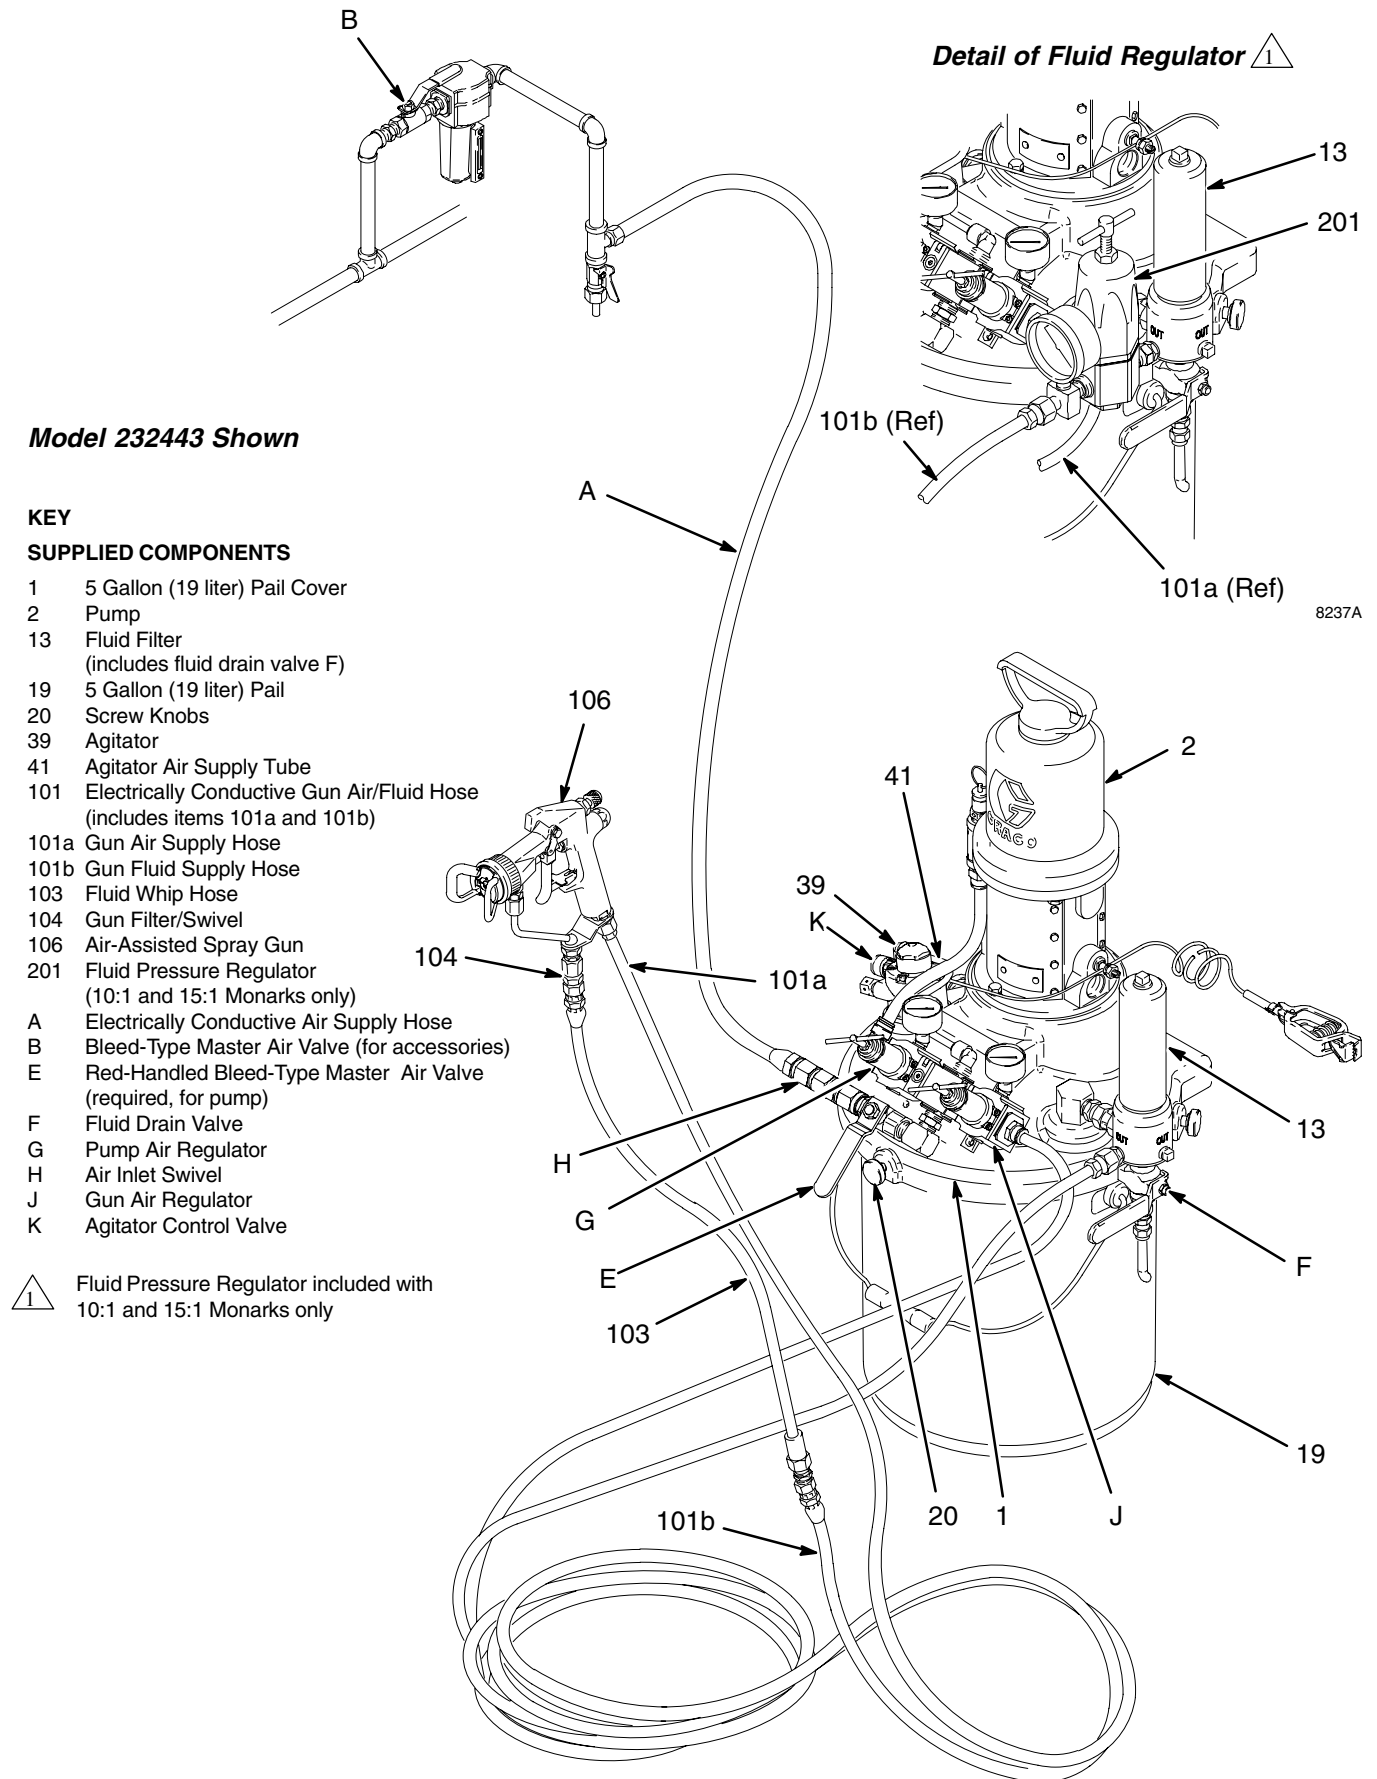

Fig. 3
2. Close the red-handled bleed-type master air valve (E, required in your system). See Fig. 3.
1. See Fig. 3. Remove the tip guard and spray tip from the gun (106). Refer to the gun manual.
2. Close the gun air regulator (J), pump air regulator (G), and bleed-type air valves (B, E).
3. Connect the air line (A) to the air inlet swivel (H).
5. Fill the pail (19) with fluid. Make sure the pail cover (1) is fastened securely to the pail with the screw knobs (20).
6. Close the fluid drain valve (F). Open the fluid regulator (201), if present.
7. Hold a metal part of the gun (106) firmly to the side of a grounded metal pail and hold the trigger open.
8. Open the bleed-type air valves (B, E) and the gun air regulator (J). Slowly open the pump air regulator (G) until the pump starts.
11. If the pump fails to prime properly, open the drain valve (F). Use the drain valve as a priming valve until the fluid flows from the valve. Close the valve.
1. Slowly open the control valve (K) to start the agitator (39). See Fig. 3.
2. Use the valve (K) to adjust the speed. Do not operate the agitator too fast. If the fluid foams or a vortex forms on the fluid surface, reduce the speed of the agitator.